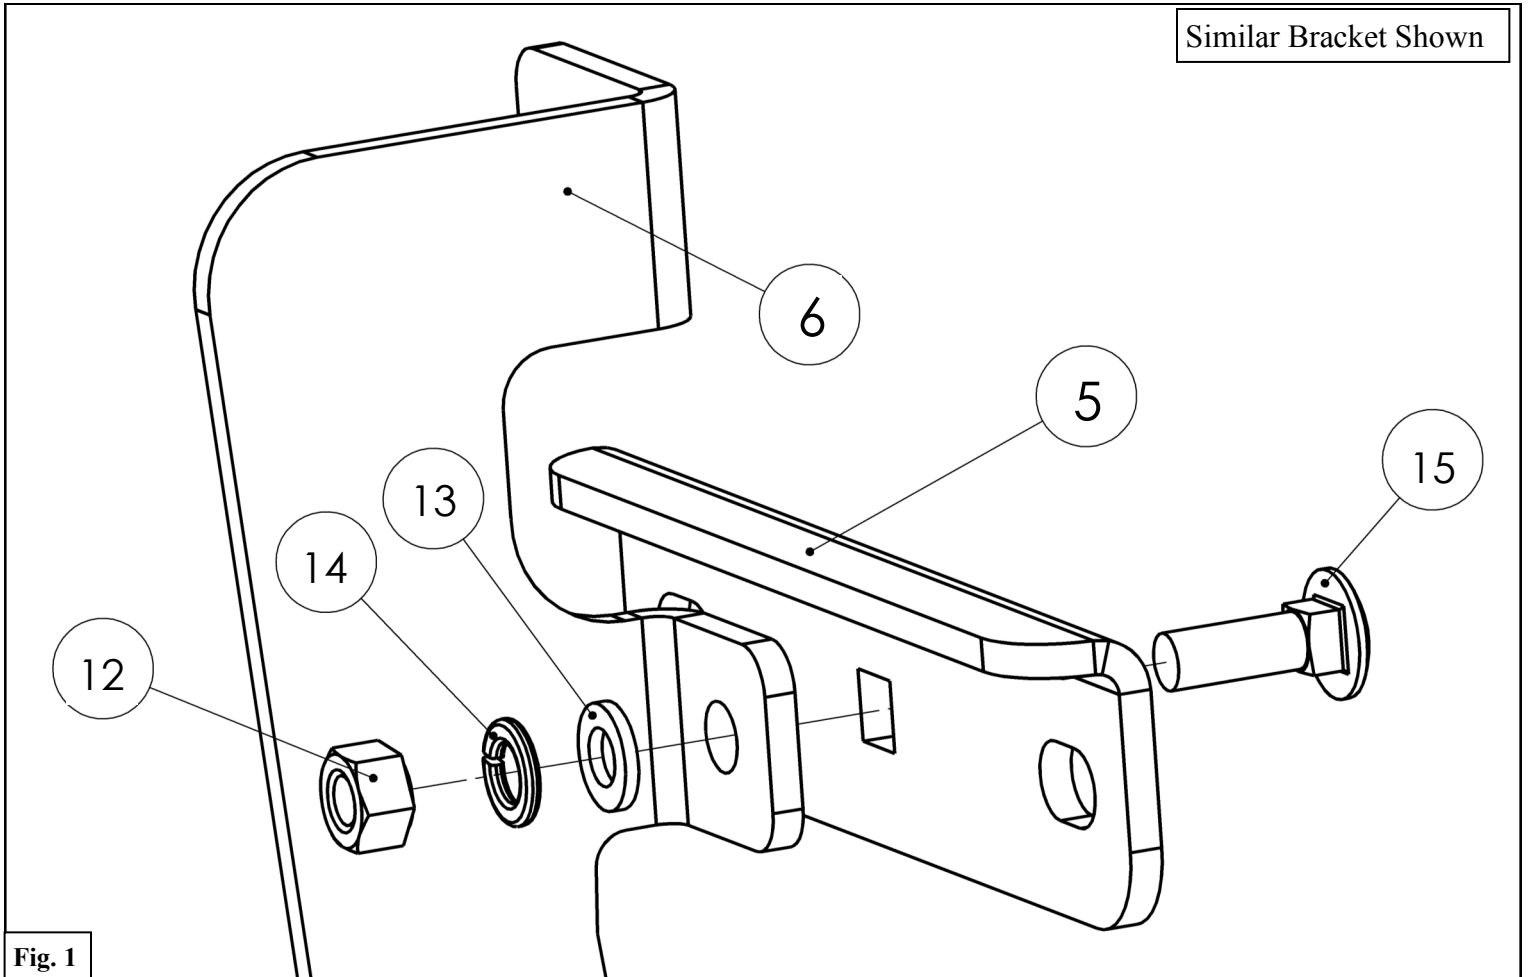

Fig. 1
2. Preassemble the Mounting Brackets (3-6). Do not tighten hardware at this time. See **Figure 1**.